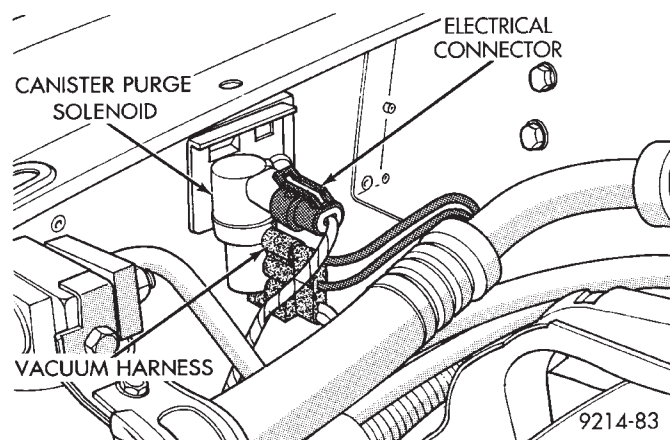

Fig. 21 Canister Purge Solenoid
(1) Remove vacuum hose and electrical connector from solenoid (Fig. 21).